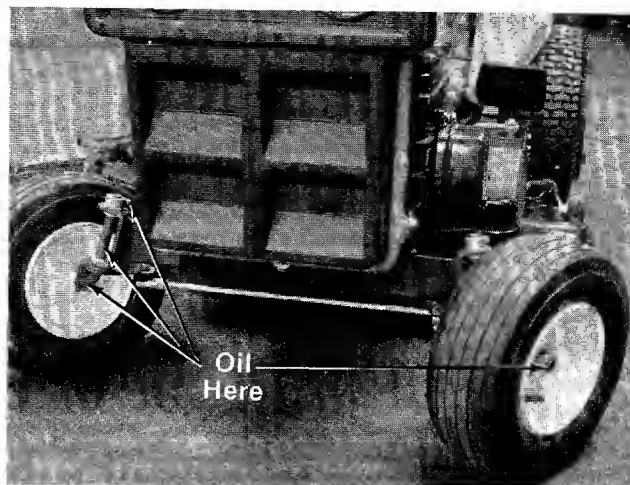

FIGURE 25.
**Bearings**—Lubricate the wheel bearings (2 per wheel) and the upper and lower spindle bearings with SAE 30 oil once a season. See figure 25.